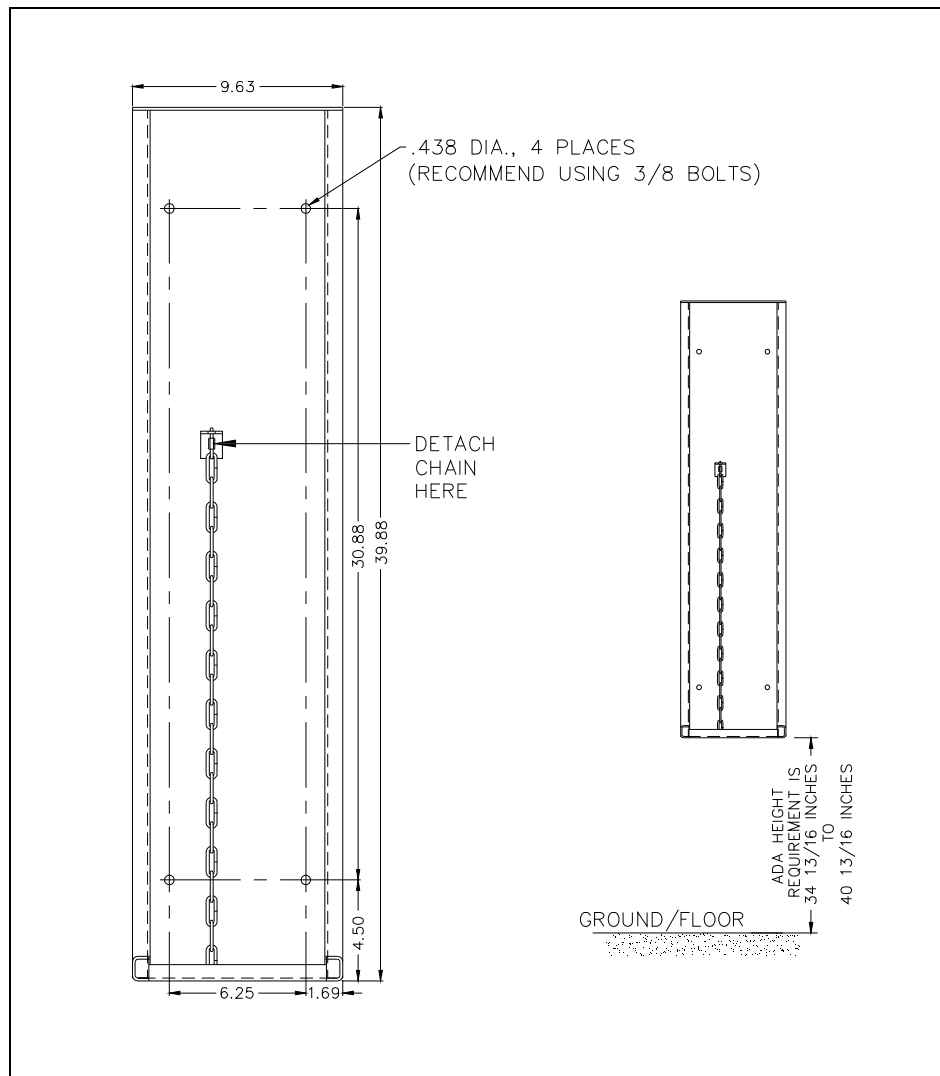

Figure 2. Wall Mounting Details
3. Detach the chain from the wall-mounting assembly (see Figure 2).
5. Fasten the wall-mount enclosure to a wall or flat surface that can support at least 50 pounds, using 3/8-inch bolts (see Figure 2 for mounting hole dimensions and ADA height requirements).